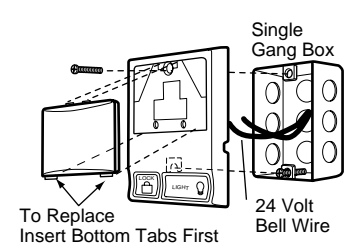

Figure 3 MULTI-FUNCTION DOOR CONTROL (BACK)
- Strip 7/16" of insulation from one end of bell wire and connect to the two screw terminals on back of door control by color: white wire to 2 and white/red wire to the 1 (Fig. 3).